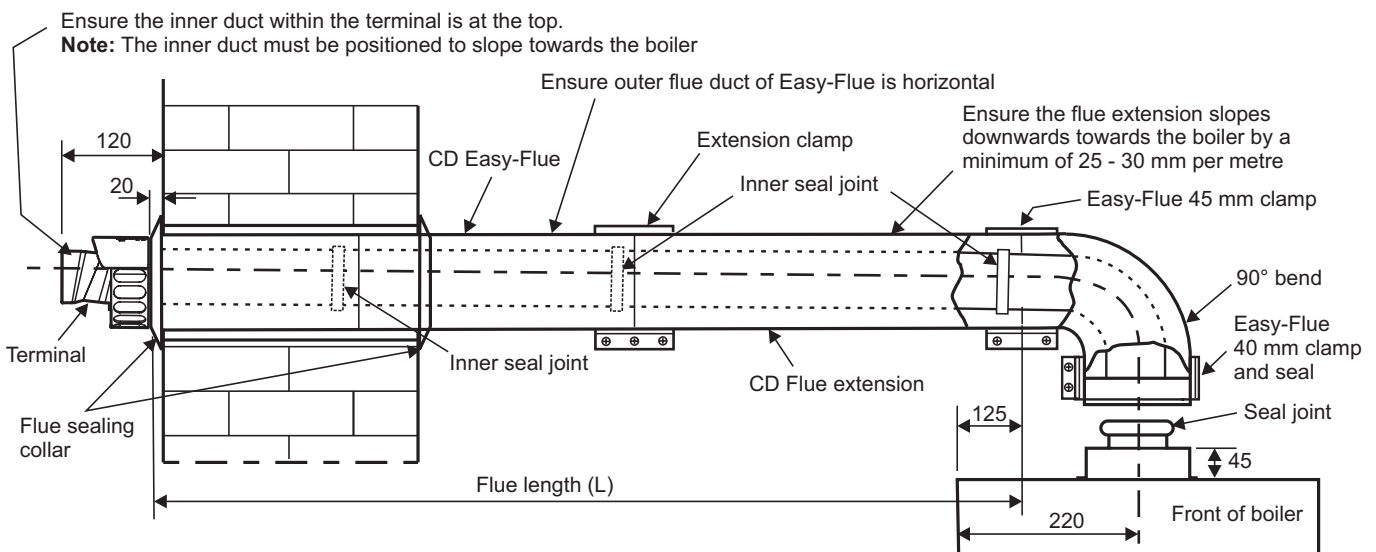

Fig. 20 - Side flue
4.8 EXTENDING THE FLUE - Fig. 20
Note: Check the flue terminal protrudes 120 mm out of the wall and that the inner duct of the terminal is positioned correctly, i.e. the inner duct within the terminal is at the top. See Fig. 20.